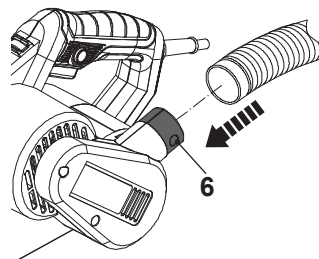

Fig. 10
Alternatively a dust extraction system or suitable vacuum cleaner can be connected to the dust extraction outlet (6) for a cleaner and safer work area (Fig. 10).